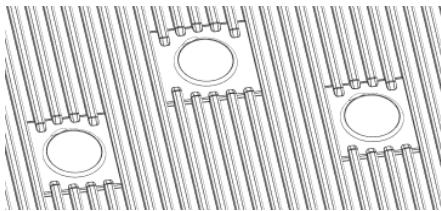

Fig. 2
- 1) If vehicle is equipped with a gooseneck hitch in bed, use a 4" hole saw and power drill to create a hole as shown in Figure 2. Place bedliner upside-down somewhere that will allow you to drill through floor of bedliner without cutting something beneath bedliner. Use dimple in center of each flat area to center hole saw. De-burr hole edges and remove rough trim after cutting.
- 2) Insert 4" caps (E) firmly into 4" holes shown in Figure 2.